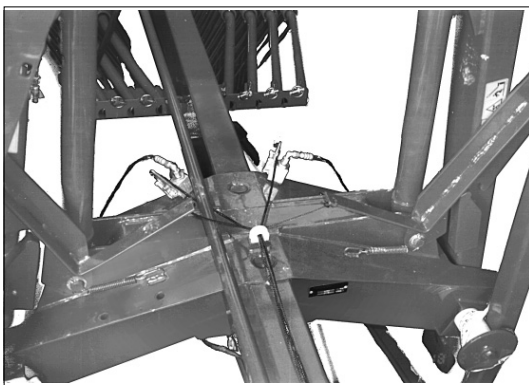

Fig. 6-2
- If the second rotary unit is to be lowered again, pull the traction rope to open the valve again. The rotary unit is then lowered into working position (fig. 6-2).